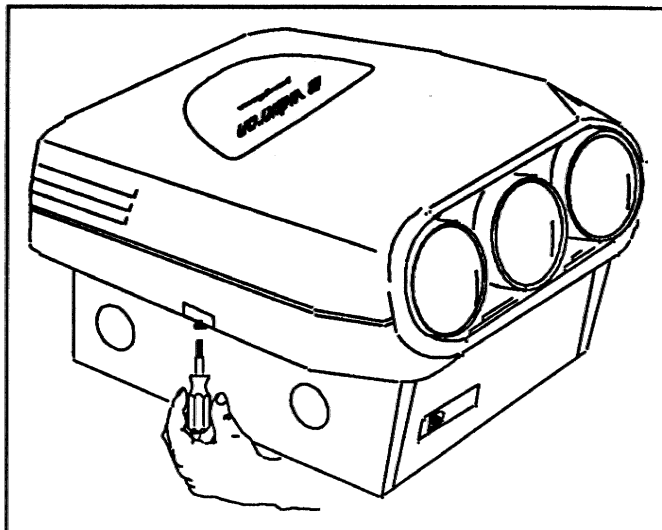

FIGURE 5-2. Top Cover Removal (A)
- b) Locate the two 15/16 head fasteners on the bottom sides of the projector's top cover. Using a 15/16 allen head type screw driver, turn the head of each fastener approximately 5 turns counter-clockwise. See Figure 5-2.